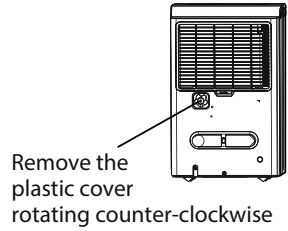
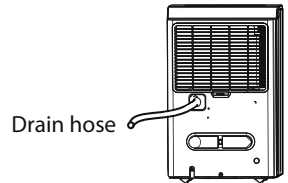

Fig. 9
Fig. 10
- Remove the plastic cover from the back drain outlet of the unit and set aside, then insert the drain hose through the drain outlet of the unit and lead the drain hose to the floor drain or a suitable drain facility. (See Fig. 9 and Fig. 10)